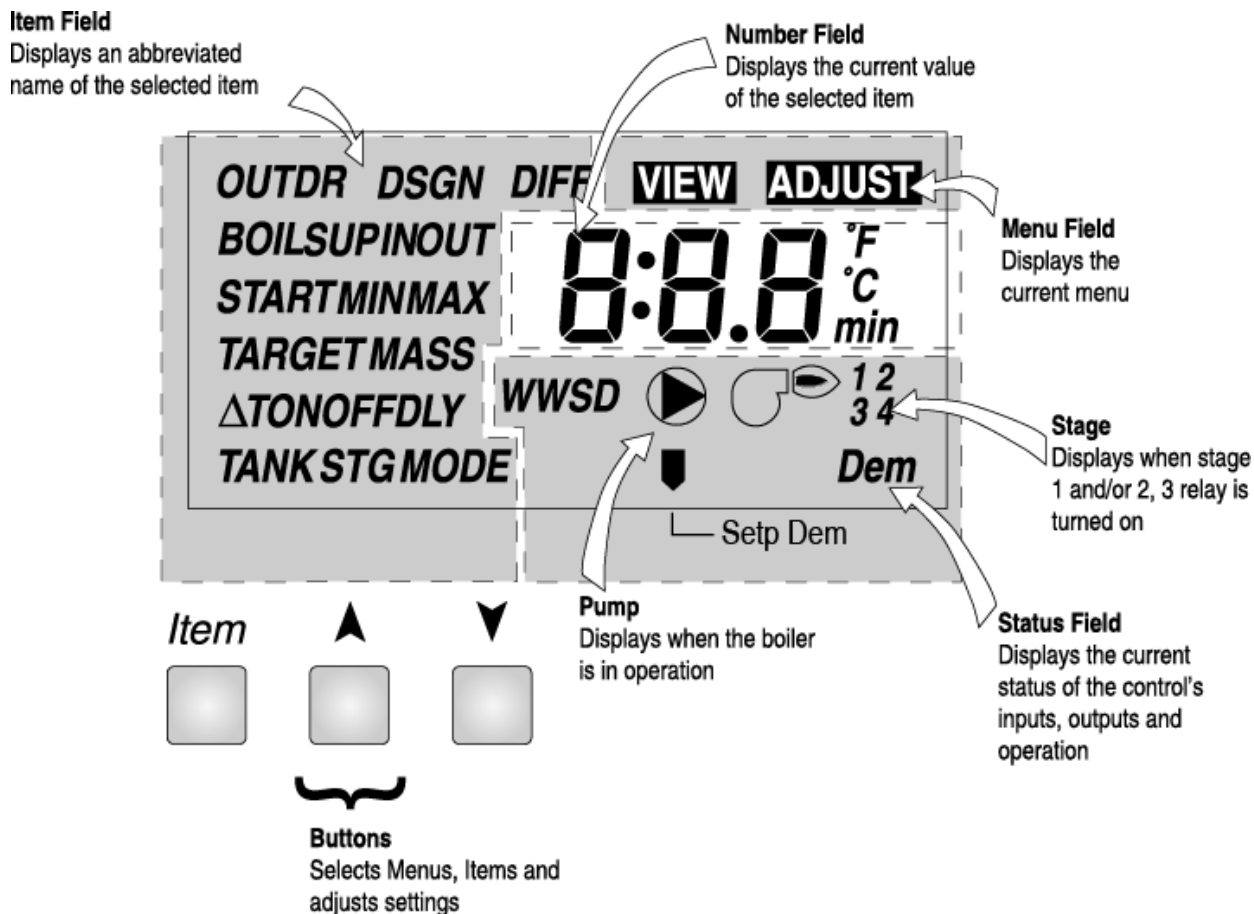

Figure 5 - BC1 Controller LCD Display
1. Press and hold three keys found below the LCD screen of the controller until “Adjust” is displayed (Figure 5). In adjust mode, enter the desired settings for your heating application (see BC-1 Boiler Controller Manual for more information). (Note: This boiler is also equipped with a non-adjustable, high-limit temperature device set at 239°F as safety limit control. The high limit temperature device has an automatic reset function.)